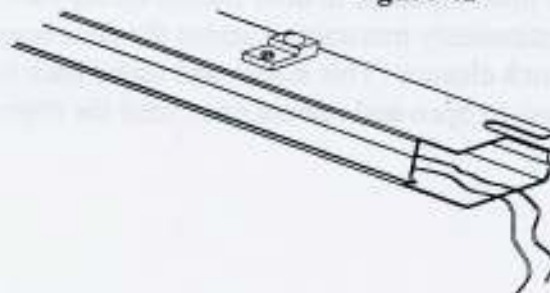

Figure 43
8. On fixed sidelights the magnet is installed inside the top rail of the door. Place a steel washer on the interior side of the rail to confirm it is installed. The magnetic reed switch is installed about eye level in the front stile of the sidelight facing the door (See Figure 43).